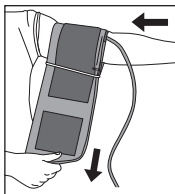

Fig. 3
6. Insert your left arm into the created cuff cylinder. Position the index mark Φ over the main artery on the inside of your arm, *Fig 3, 4*.